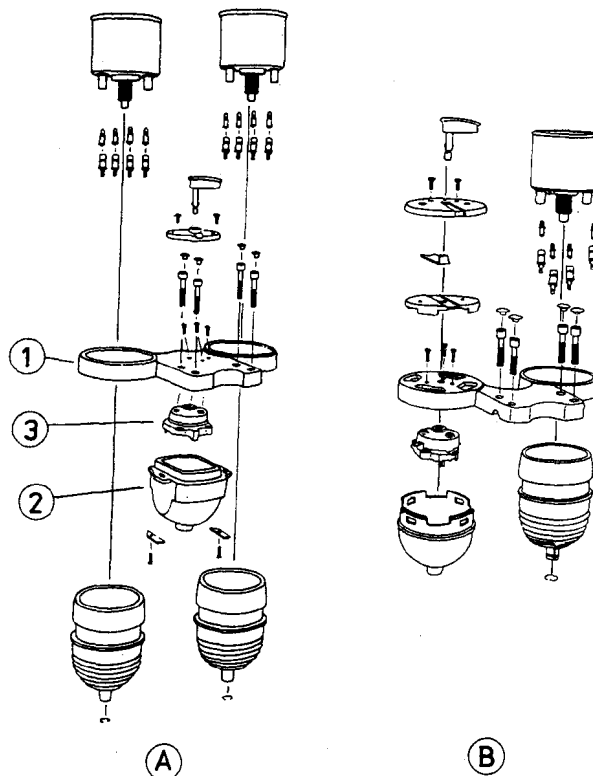

Fig. 177. Exploded view of instrument pod
Demounting and mounting the ignition-light switch is illustrated in Fig. 177. In the deluxe model (A in Fig. 177), the instrument pod (1) must be unscrewed from the upper clamping head. Then, the covering cap (2) and the ignition-light switch will be accessible.